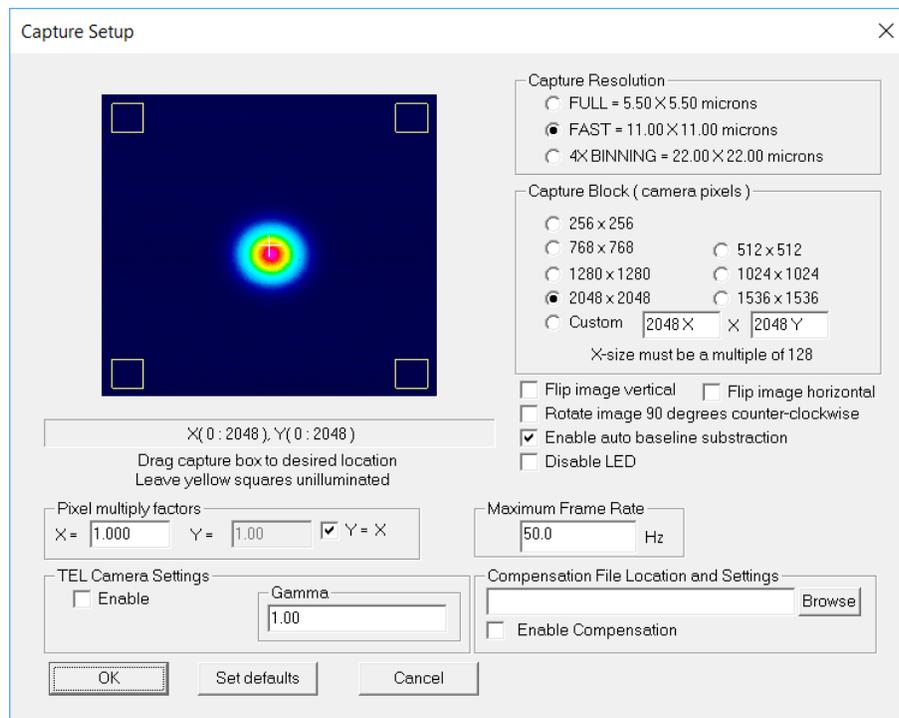

Figure 2.1: Capture setup dialog box.
- From the DataRay application menu bar click **Setup** → **Capture Setup Dialog** or press **Alt + S**. A sample profile of your beam will be displayed (see Fig. 2.1). The capture block is the square/rectangular shape within this frame (with squares in each corner). If the capture block size matches the maximum pixel dimensions, the capture block edges will coincide with the edges of the frame.